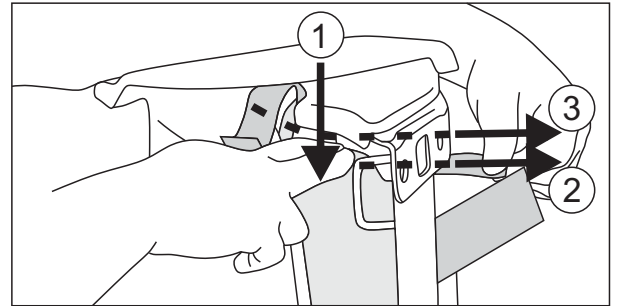

Fig. 6.2
6.2. Push the corner of the seat (1) down to help push tapes through (Fig. 6.2). Push the 2 tapes (2 & 3) from the corner of the seat cover through (Fig. 6.2).